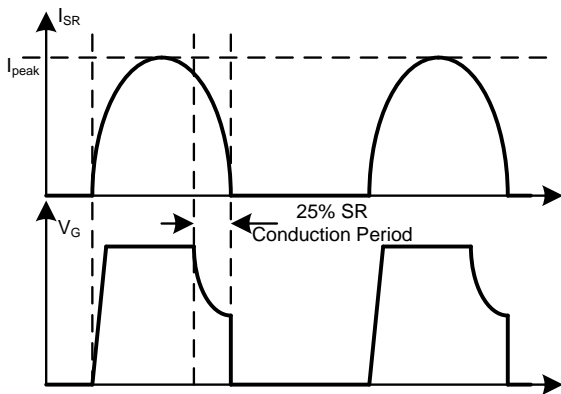

Figure 11: Synchronous Rectification Typical Waveform in LLC
Figure 11 shows the typical waveform of the LLC on the secondary side. To achieve a fairly high usage of the MOSFET’s $R_{DS(ON)}$, it is expected that the MOSFET driver voltage is kept at the maximum level until the last 25% of the SR conduction period. Calculate V_{DS} with Equation (2):